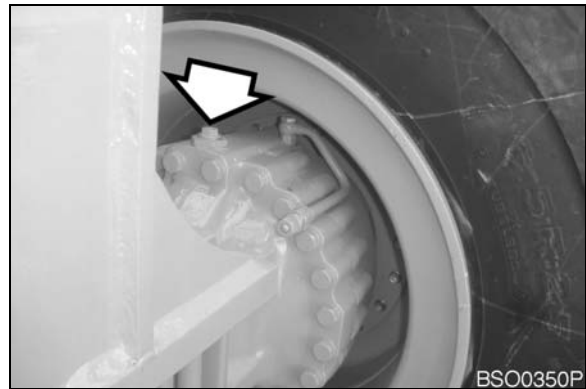
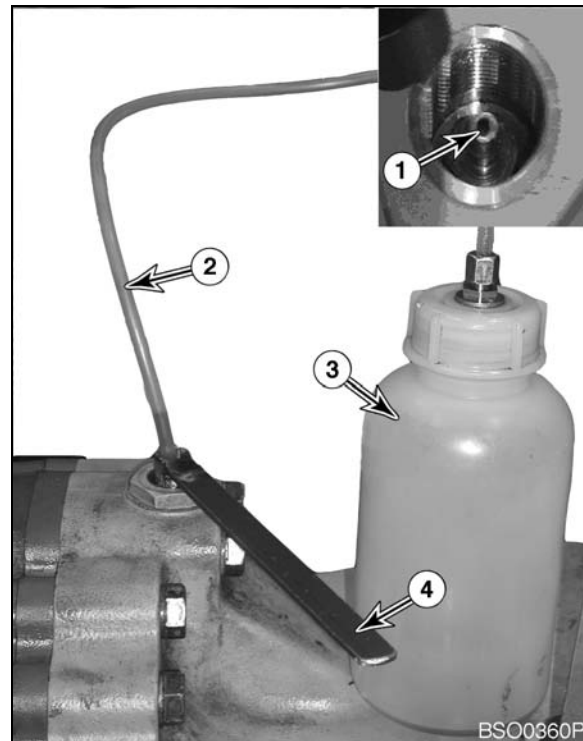

Figure 85
Figure 86
2. Remove plug (Figure 85) on axle. Increase the height of bleeder (1, Figure 86) by using special tool (4, Figure 86). Place one end of a plastic hose (2, Figure 86) over bleeder screw (1). Place other end of hose in a container (3) filled with brake fluid.
4. Open bleeder screw (1, Figure 86). Then press down on brake pedal until it rests on floor of cab. Hold pedal down on floor of cab. Close bleeder screw while pedal is being held down. After bleeder screw has been closed, allow brake pedal to return to upright position. Continue to open bleeder screw and press down pedal as described in this step, until fluid expelled from bleeder hose has no air bubbles present.
5. Securely close bleeder screw (1, Figure 86). Install plug in axle.